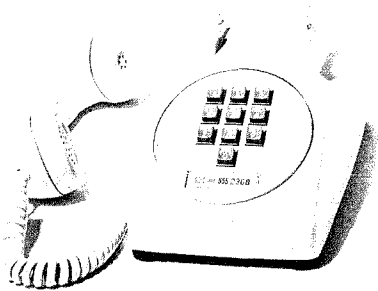

Fig. 2 — 1500 Type Telephone Set
2.07 The 1500-Type TOUCH-TONE Set (Fig. 2) is basically the same as the 500-Type Set except that the dial mounting bracket and set housing have been modified to accommodate the 25-Type TOUCH-TONE Dial. The dial assembly contains a line powered oscillator which generates two frequencies when a button is depressed. These frequencies are transmitted to the central office which must be equipped with a converter.